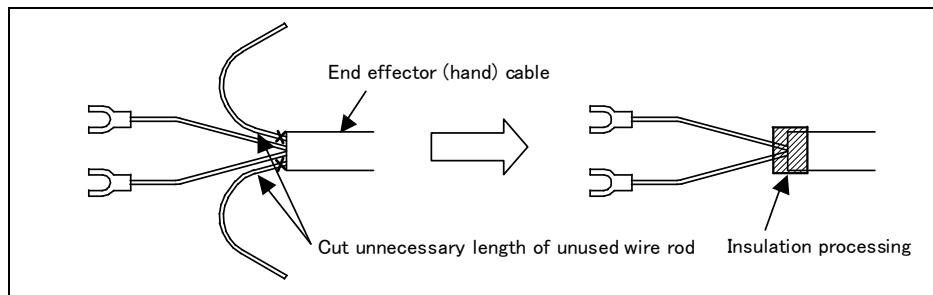

Fig.5 Treatment method of end effector (hand) cable
- Cut unnecessary length of wire rod. Make insulation processing like winding acetate tape. (See Fig.5)